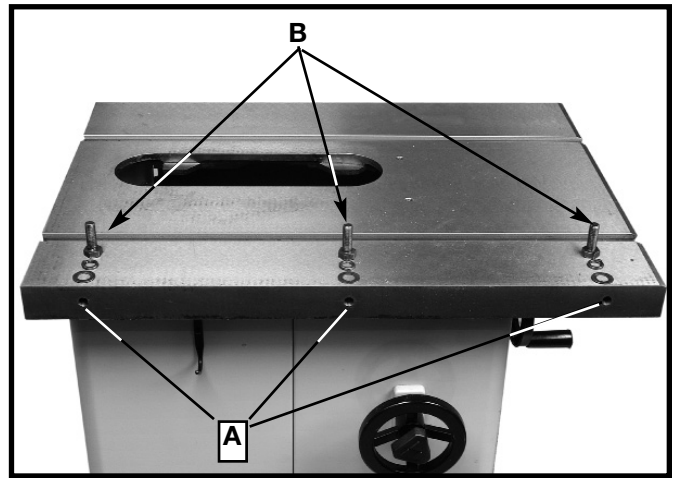
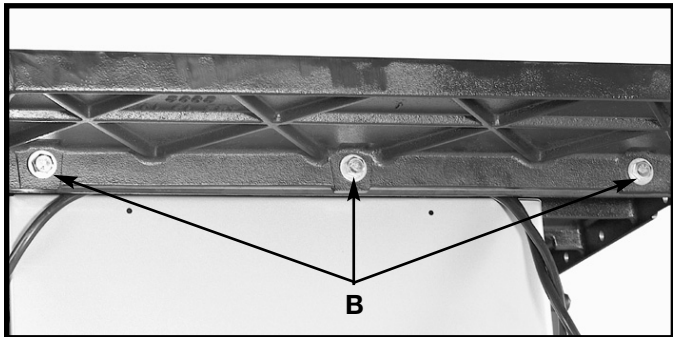
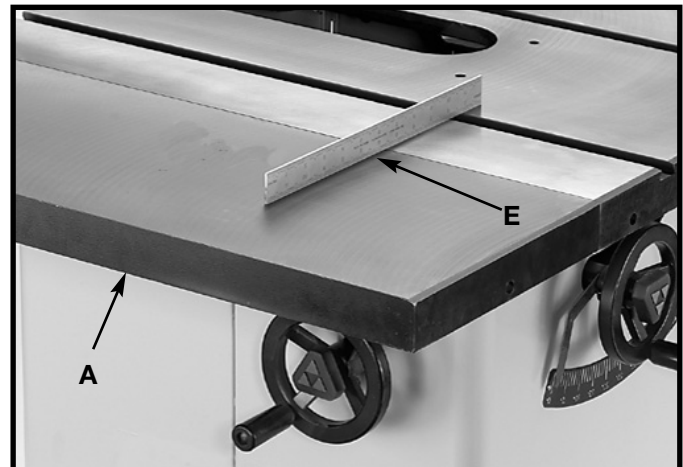

Fig. 9
Fig. 10
Fig. 10A
Assemble left extension wing (A) Fig. 10A to the saw table. Align the three holes in the extension wing with the three holes (A) Fig. 9 in the side of the saw table. Place a 7/16" lockwasher, then a 7/16" flat washer on a 7/16-20x1-1/4" hex head screw (all shown at (B) Fig. 9). Insert the screw through the hole in the extension wing and thread the screw into the tapped hole in the side of the table. Repeat this process for the two remaining holes in the extension wing and saw table.
With a straight edge (E) Fig. 10A, make certain the extension wing (A) is level with the saw table before tightening three bolts (B) Fig. 10 with an 18mm open end wrench. Starting with a bolt on one side, make sure the tables are lined up and then tighten that bolt. Then, move to the middle bolt and follow the same procedure of aligning and tightening. Then do the same for the bolt on the other end.